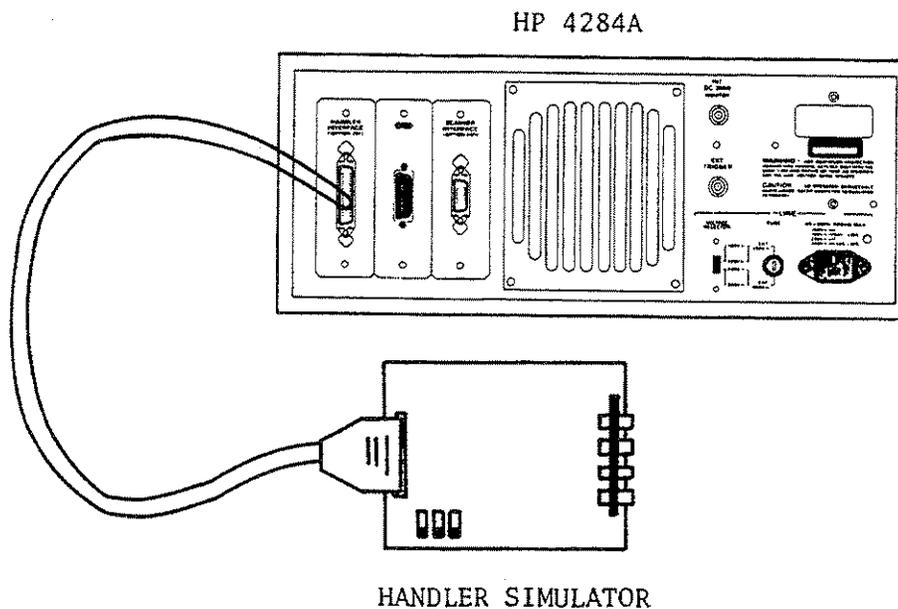

Figure 10-15. Handler Interface Function Test Set UP
17. Confirm that the LEDs on the handler simulator turn ON in accordance with the HP 4284A's output signals displayed on the LCD. The LEDs turns ON light in the sequence shown in Figure 10-15.